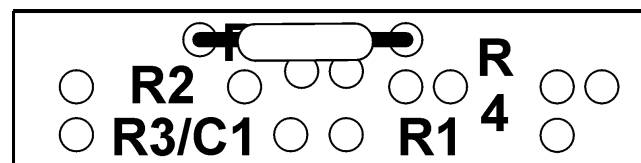

Figure 19. Ground Loop Connection
Occasionally there is an installation where the ground connection is made at the sensor, but it is not reliable. The solution to this “intermittent” ground is to replace the COM to GND(A) jumper wire at R5 (Figure 10(a)) with a 10 MW, 5%, 1/4 Watt resistor. This provides a ground reference for the analog inputs in question, but allows very little ground current to flow. In very noisy environments with intermittent grounds, a smaller resistor may be used if the readings are erratic. This connection is shown in Figure 19 below.
To install this resistor the wire at R5 must first be removed. After R5 has been removed, push the resistor ends through the holes for R5 (from the terminal side) until the resistor lies flat with the panel surface. On the backside, solder the wires to the holes. Then clip off the extra wire with pliers. The auxiliary component area in question will now look like Figure 19. This connection does not require any additional traces to be cut.